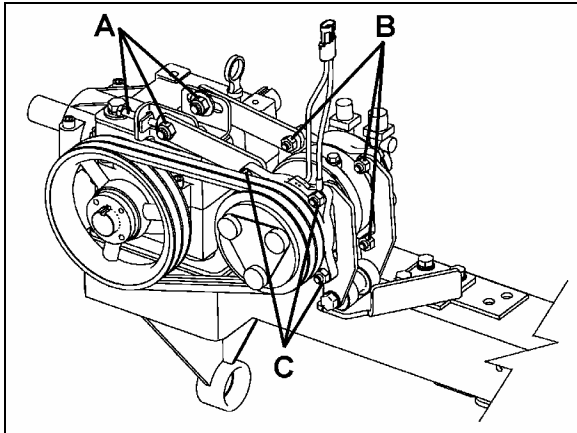

FIGURE 34: COMPRESSOR REMOVAL OR INSTALLATION
- Slacken bolts A (Figure 34).